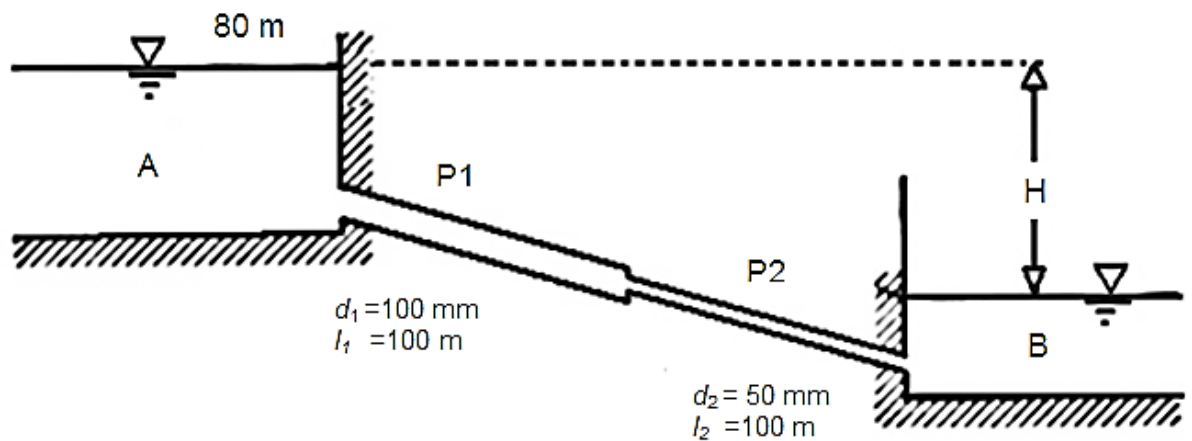

Figure 2/Rajah 2
- (c). Two cast iron pipes ($e = 0.25$ mm) in series connecting two reservoirs, A and B in **Figure 2**. Both pipes are 100 m long and have diameters of 0.1 m and 0.05 m respectively. The elevation of water surface at the top of reservoir A is 80 m. The discharge of water from reservoir A to reservoir B is $0.05 \text{ m}^3/\text{s}$.